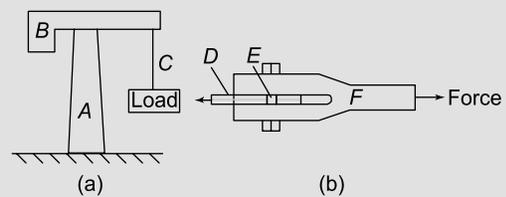

Figure 2.4
**Problem 1.** Figure 2.4(a) represents a crane and Figure 2.4(b) a transmission joint. State the types of forces acting, labelled *A* to *F*.